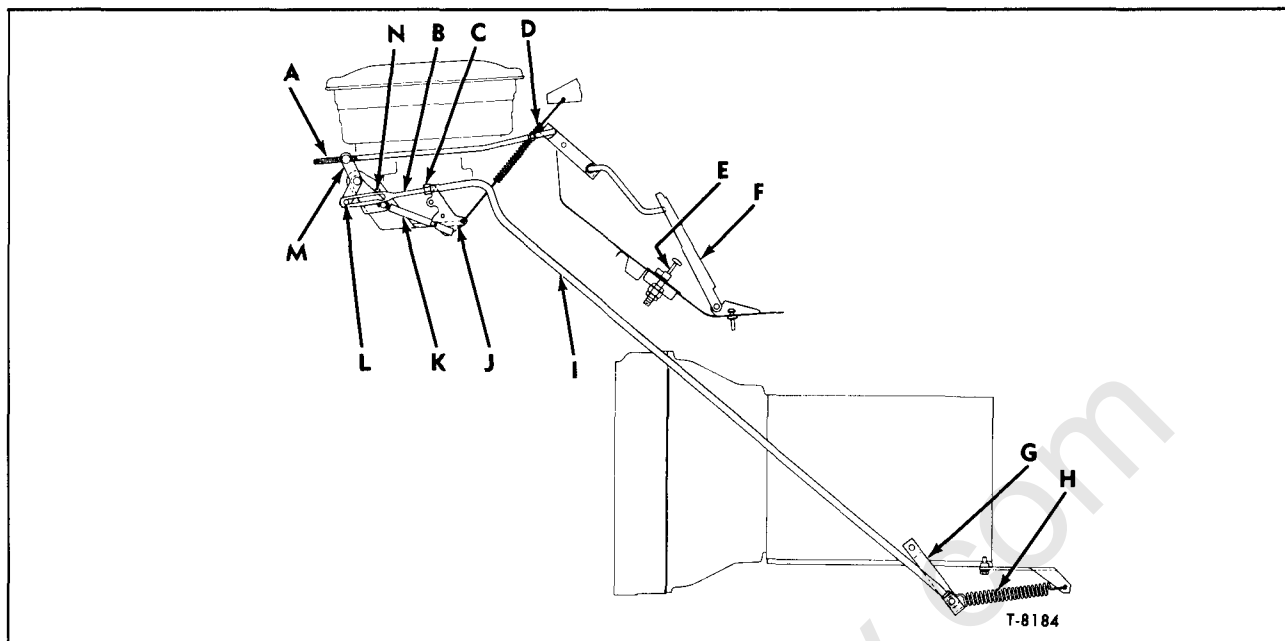

Figure 7—TV Linkage (HM, JM80)
**IMPORTANT:** Be sure engine idle (525 rpm with MT Series transmission) and governed speed are properly adjusted before proceeding. Refer to ENGINE FUEL SYSTEM (SEC. 6M) of the Heavy Duty Truck Service Manual ST135-70 for adjustments. Note the key letters in the following text refers to figures 7 and 8.
3. Disconnect TV rod (I) from TV lever (G). Also, disconnect TV lever return spring (H) from TV lever.
4. Disconnect link assembly (K) from lever (M).
5. With carburetor throttle lever (J) at IDLE position and lever assembly (M) held against stop pin (N), adjust the length of link assembly (K) so that it freely enters lever (M).
6. Disconnect rod (A) from lever assembly (M) and also disconnect throttle return spring (D).
7. Depress accelerator pedal (F) until detent button (E) is compressed (THRU-DETENT). Ample clearance must exist between the pedal and floor